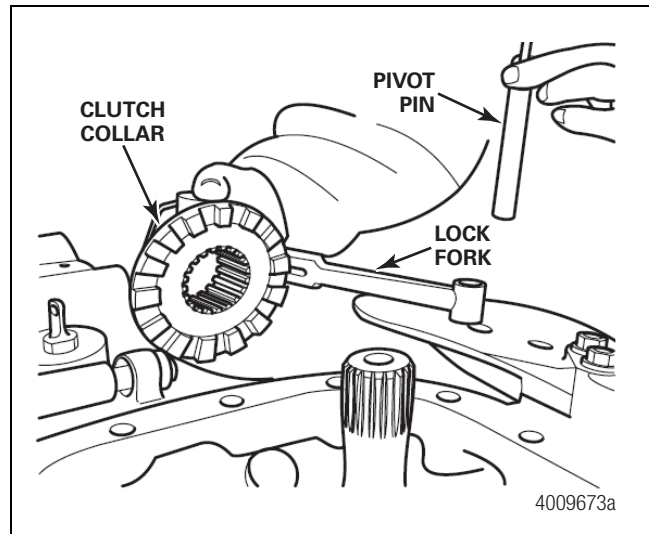

Figure 6.11
8. Assemble an axle shaft part way into the axle housing. Install the clutch collar with the fork onto the axle shaft and push the axle shaft through into the carrier. The axle shaft will be used as a guide for aligning the DCDL parts. Figure 6.11.